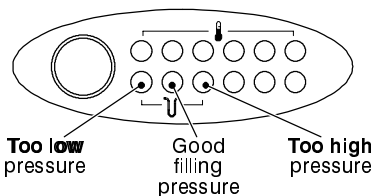

fig. 2.2
Ensure that the heating circuit is regularly filled with water (even if the boiler is only used for domestic hot water supply) checking that the pressure indicated on the temperature and pressure gauge (9) is not lower than that shown in fig. 2.2.
If the pressure reading on the pressure gauge is below that shown in fig. 2.2, than the system will require topping up. A filling loop is normally provided by the installer for this purpose.
- 4 Gradually open the valves of the filling loop and watch the main circuit pressure display until the central green light comes on (fig. 2.2).